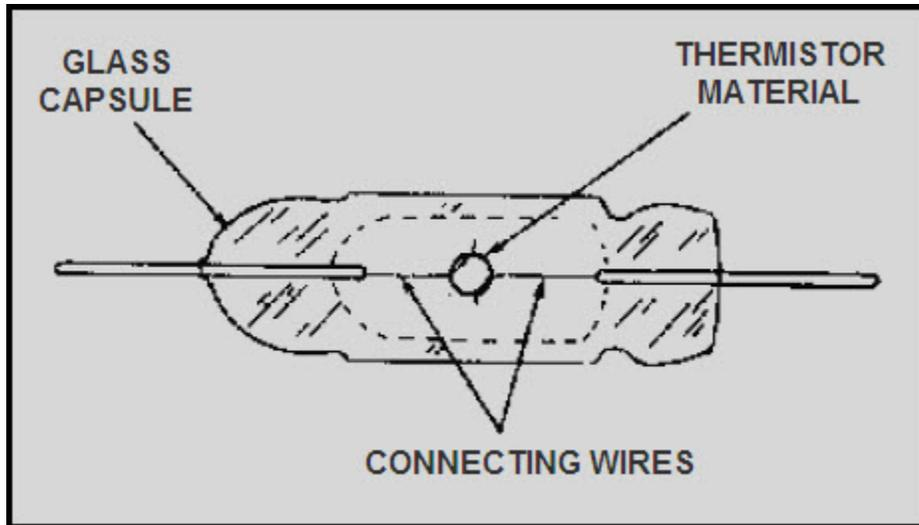

Figure 2-3 Bead-type thermistor
**THERMISTOR** - A high degree of precision is made possible by the thermistor; therefore, it is widely used. Figure 2-3 shows the typical construction of a bead-type thermistor. The negative-temperature coefficient comes from the use of a semiconductor as the active material. Notice that the active material is shaped in the form of a bead. It is supported between two pigtail leads by connecting wires. The pigtail ends are embedded in the ends of the surrounding glass capsule.